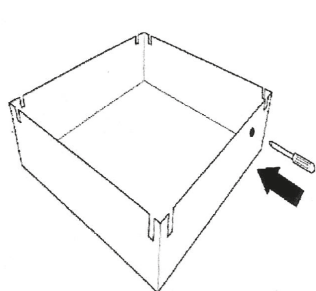

Fig. 1
- Make a hole in the cover to allow the passage of the electric cable (Fig. 1).